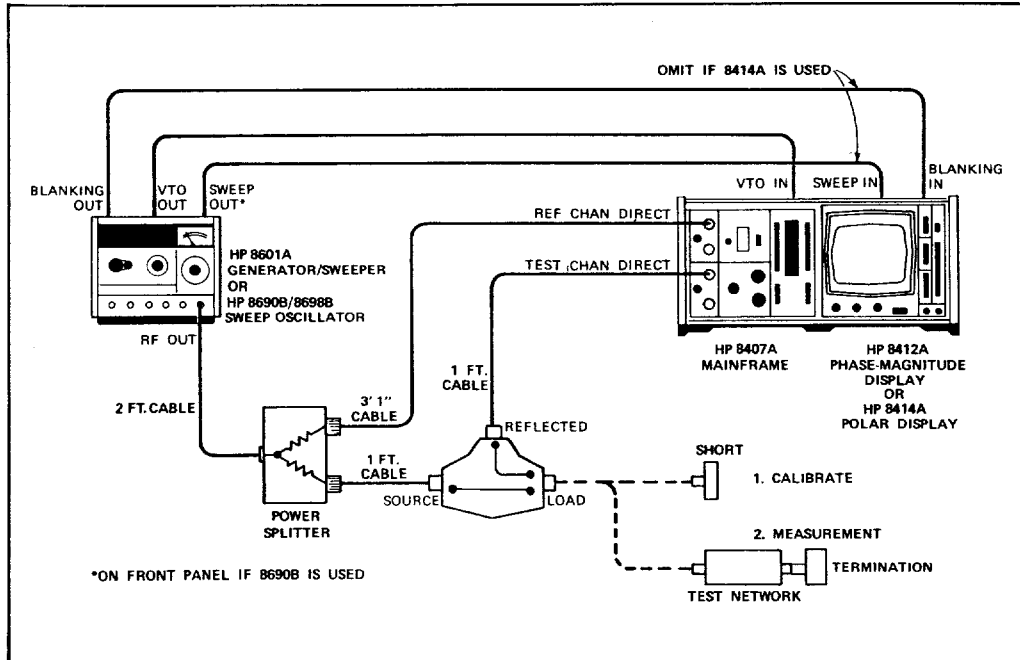

Figure 6-1. Basic Setup for Reflection Measurements
1. **SETUP.** Set up the equipment as in Figure 6-1 with a short circuit across the LOAD port of the Directional Bridge.
1. Set up the equipment as shown in Figure 6-1. Be sure you have placed the three foot cable between the power splitter and the REF CHANNEL input, a one foot cable between the REFLECTED port of your directional bridge and the TEST CHANNEL input, and a one foot cable between the other arm of the power splitter and the SOURCE input of the directional bridge. This is to ensure proper phase matching between the two channels.
Insert the test device at point A in Figure 6-1.